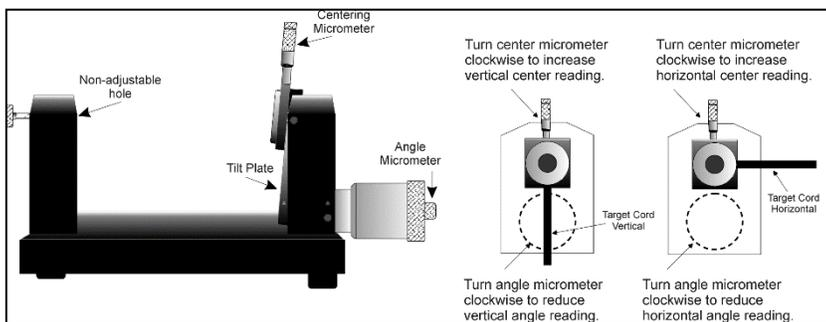

Figure 55 - Model A-807 Calibration Mounting Fixture
*Note: If using the Model A-807 Calibration Mounting Fixture (see **Figure 55**), then the target must be rotated 90° before performing a horizontal calibration. If the calibration fixture you are using has two centering micrometers, such as the T-230, the horizontal centering micrometer may be used and there is no need to rotate the target.*
In order to use the automated features of the Read8 software, calibration for a center-and-slope target must be performed with the target mounted in the A-807 calibration mounting fixture (see **Figure 55**). This fixture is equipped with both a centering micrometer and an angle micrometer.
Note: If using Model A-807 Calibration Mounting Fixture (see Figure 55), the target must be rotated 90° before performing a horizontal calibration. If the calibration fixture you are using has two centering micrometers, such as the T-230, then the horizontal centering micrometer may be used and there is no need to rotate the target.